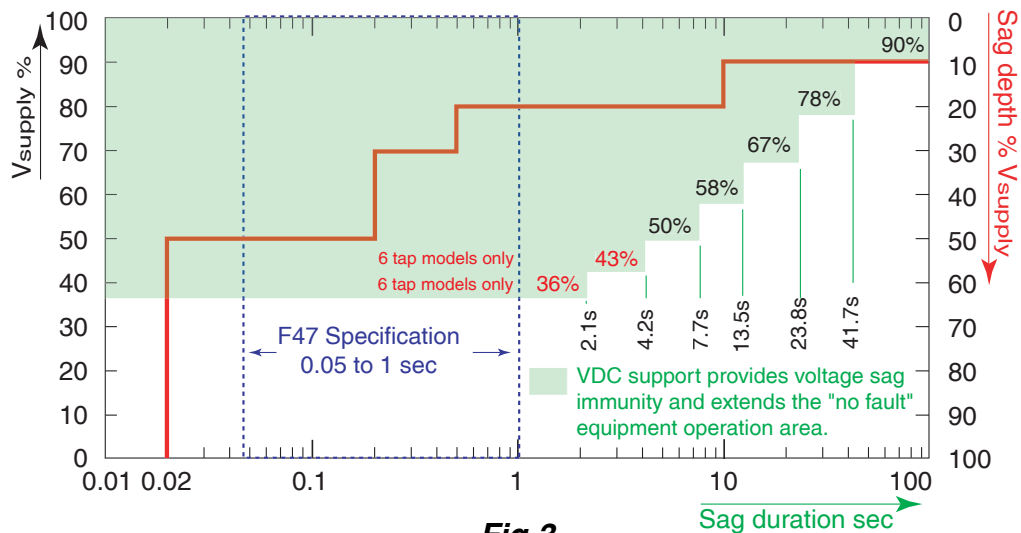

Fig 3
12.5 seconds respectively with a maximum continuous sag depth of 50%. VDC L4T3K/5K & VDC L6T3K/5K support times are shown in Fig 3.
The VDC S6T & L6T series should be used for critical applications where support down to 37% of nominal supply voltage is needed. The Fig 3 shows the extended support area. The "no fault" window is extended from 50ms to 2.1 seconds with a maximum continuous sag depth of 63%.